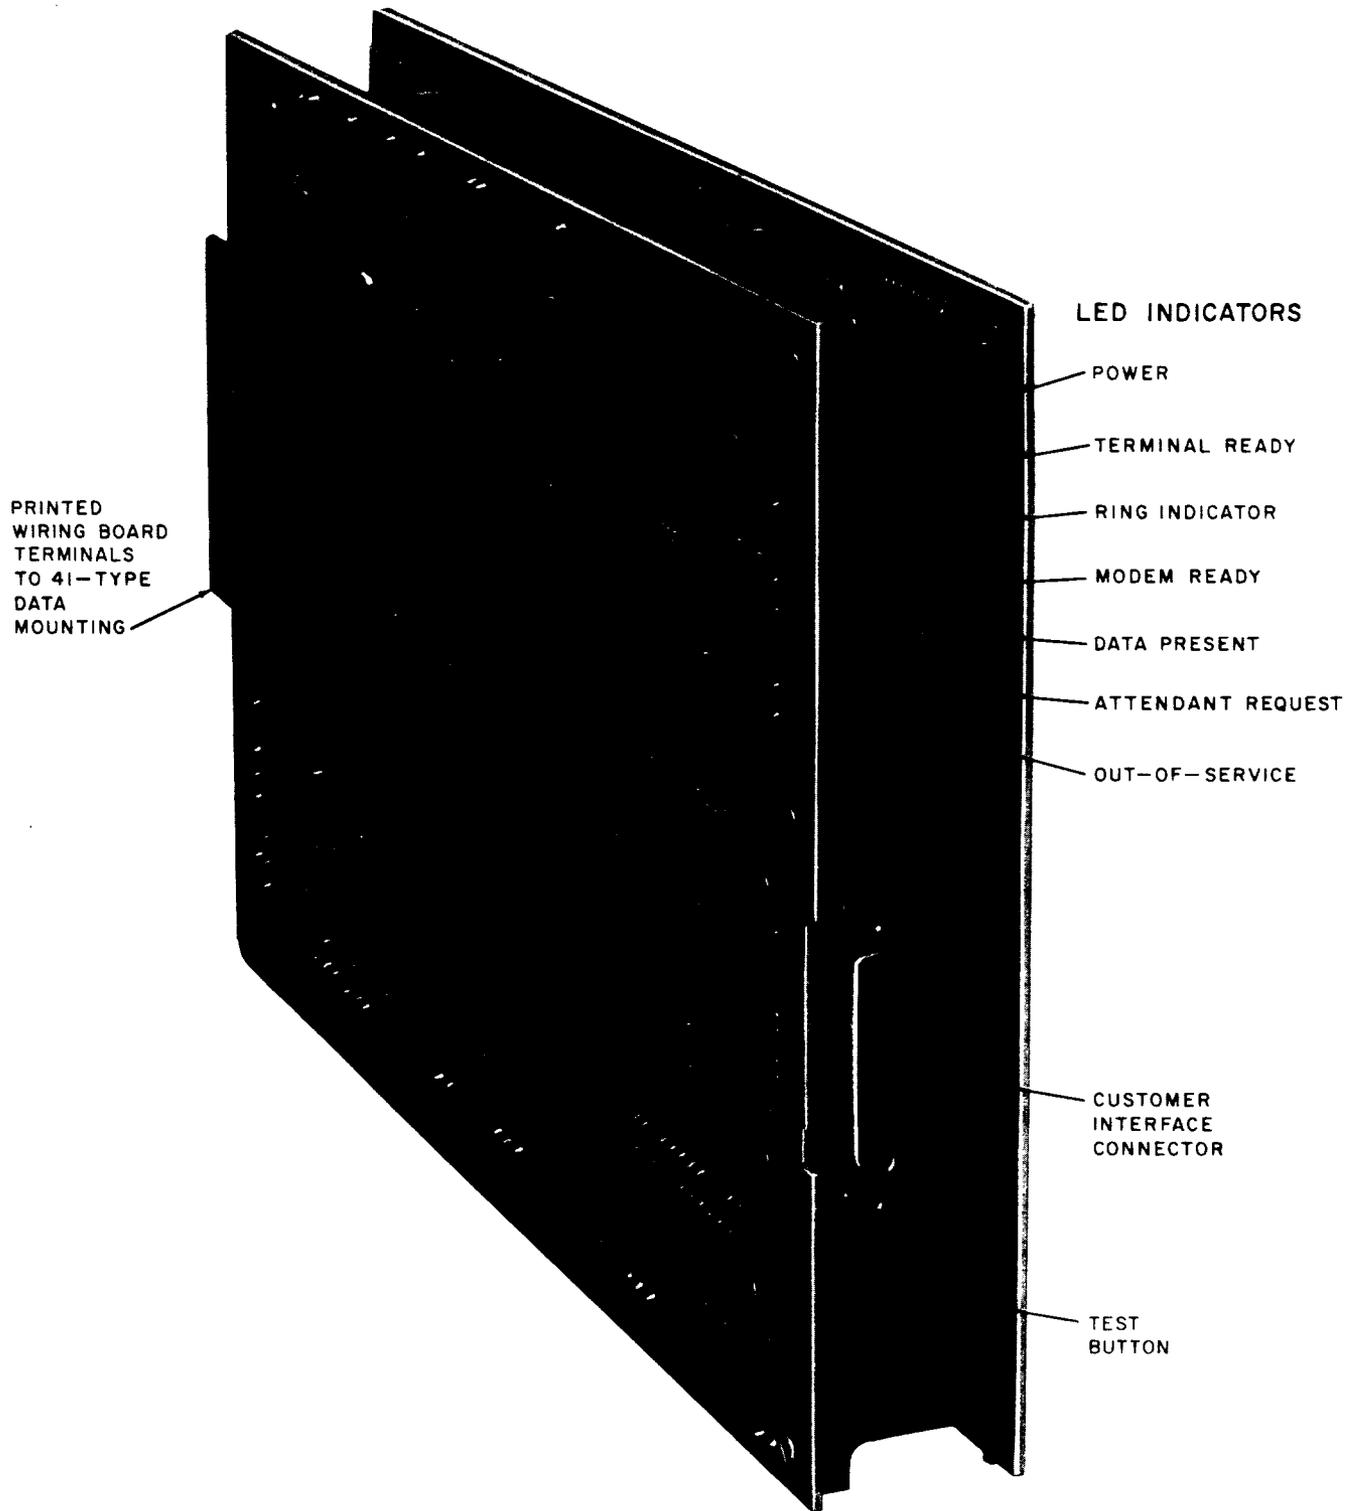

Fig. 4—Data Set 407A-Type
**2.09** The data set consists of two printed wiring circuit packs (CPs), JU1 and JU2. These CPs are sandwiched together with the printed wiring sides out (see Fig. 4). An 840308019, 25-pin connector is located on the front of the data set and provides the interface with the DAS. Printed wiring board terminals are located on the rear of the data set, enabling it to plug into the data mounting. The data set for test line 1 is mounted in position 3 of the data mounting, while the data set for test line 2 is mounted in position 6.
**3.07** Seven status LEDs are provided on the front of the data set as shown in Fig. 4. The names and functions of the LEDs are defined as follows.